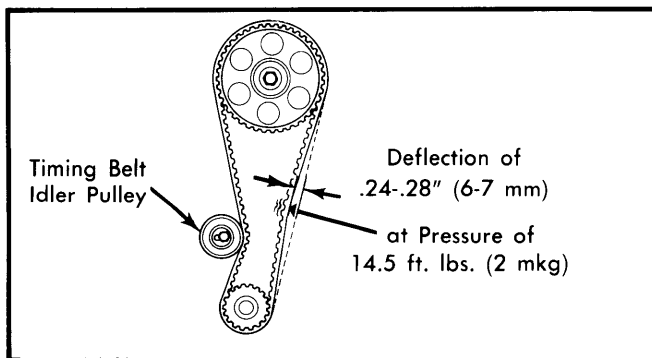

Fig. 3 Measuring Timing Belt Tension
2) Turn crankshaft 2 revolutions and align timing mark. Measure timing belt tension as shown in Fig. 3 and adjust with timing belt idler pulley. Complete installation by reversing removal procedure.